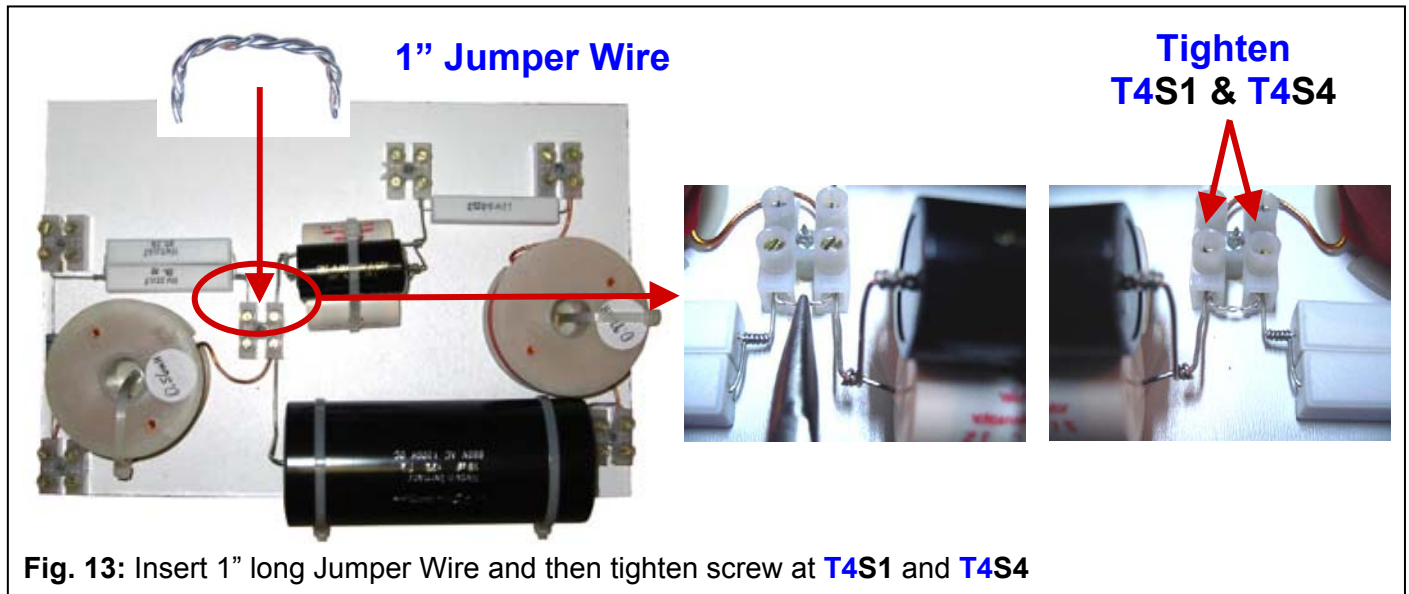

Fig. 13: Insert 1" long Jumper Wire and then tighten screw at **T4S1** and **T4S4**
18. Take a 1" long jumper wire and insert the wire into **T4S1** and **T4S4** ... then tighten screws at both locations (Fig. 13)